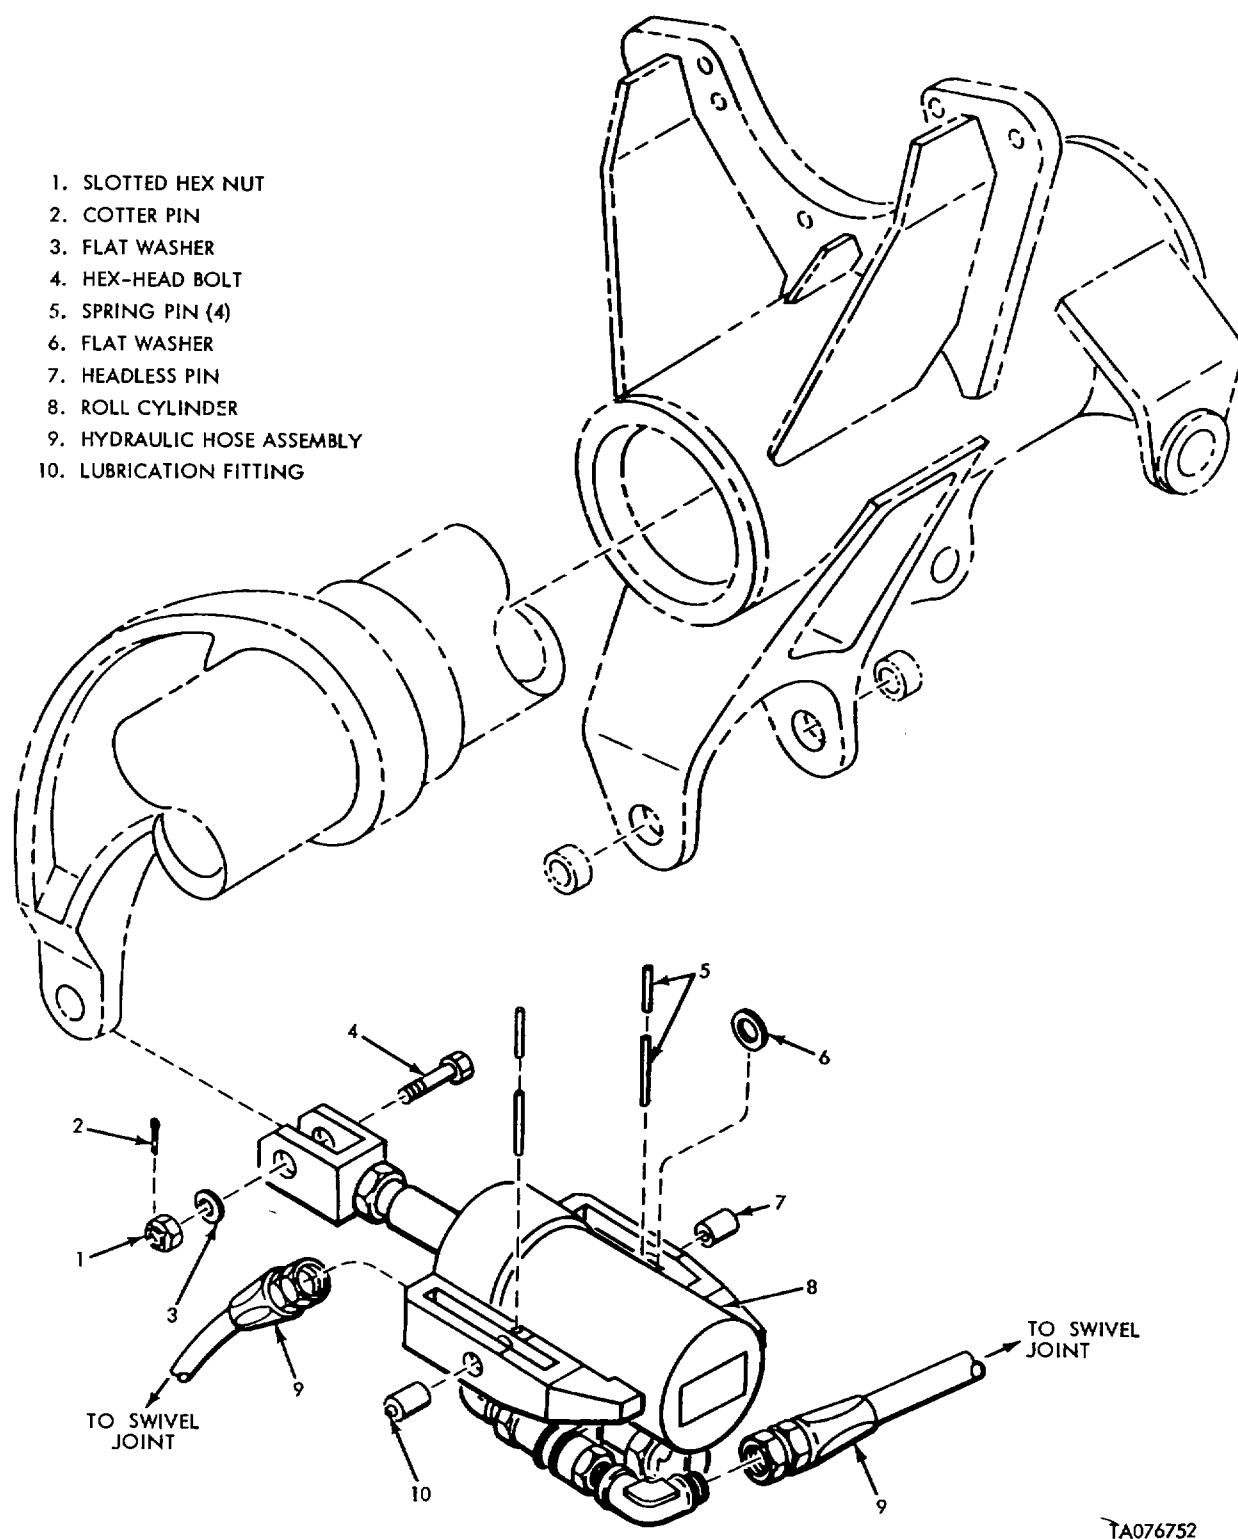

Figure 3-57. Roll Cylinder Removal
a. Removal (fig. 3-57).
- (1) Place superstructure in transport position, lower index forks onto blocks, shut down engine and cycle all valves to relieve pressure.
- (2) Tag and disconnect both hydraulic hose assemblies (9) from cylinder. Cap cylinder ports and install plugs in open ends of hoses.